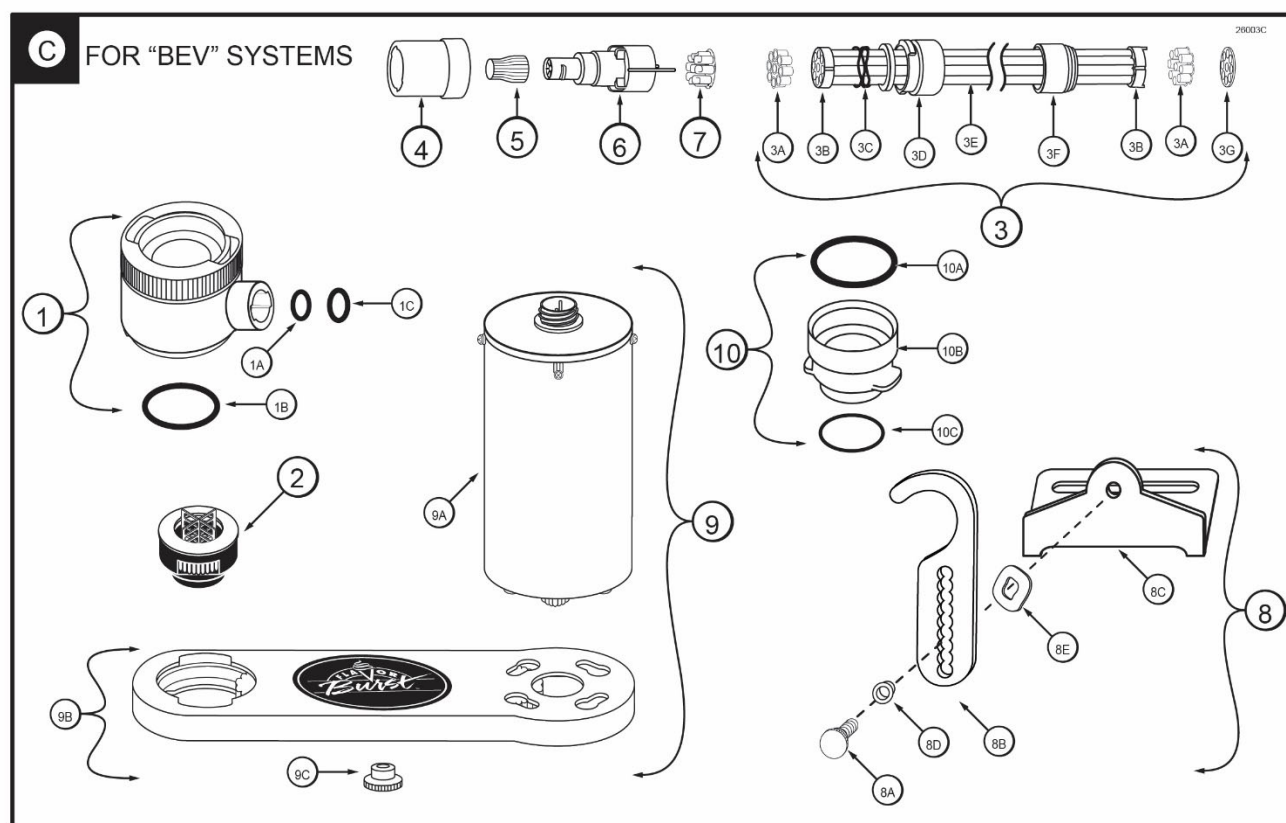

Figure 3C
**“BEV” Blending Assembly and Related Parts (See Figure 3C)**